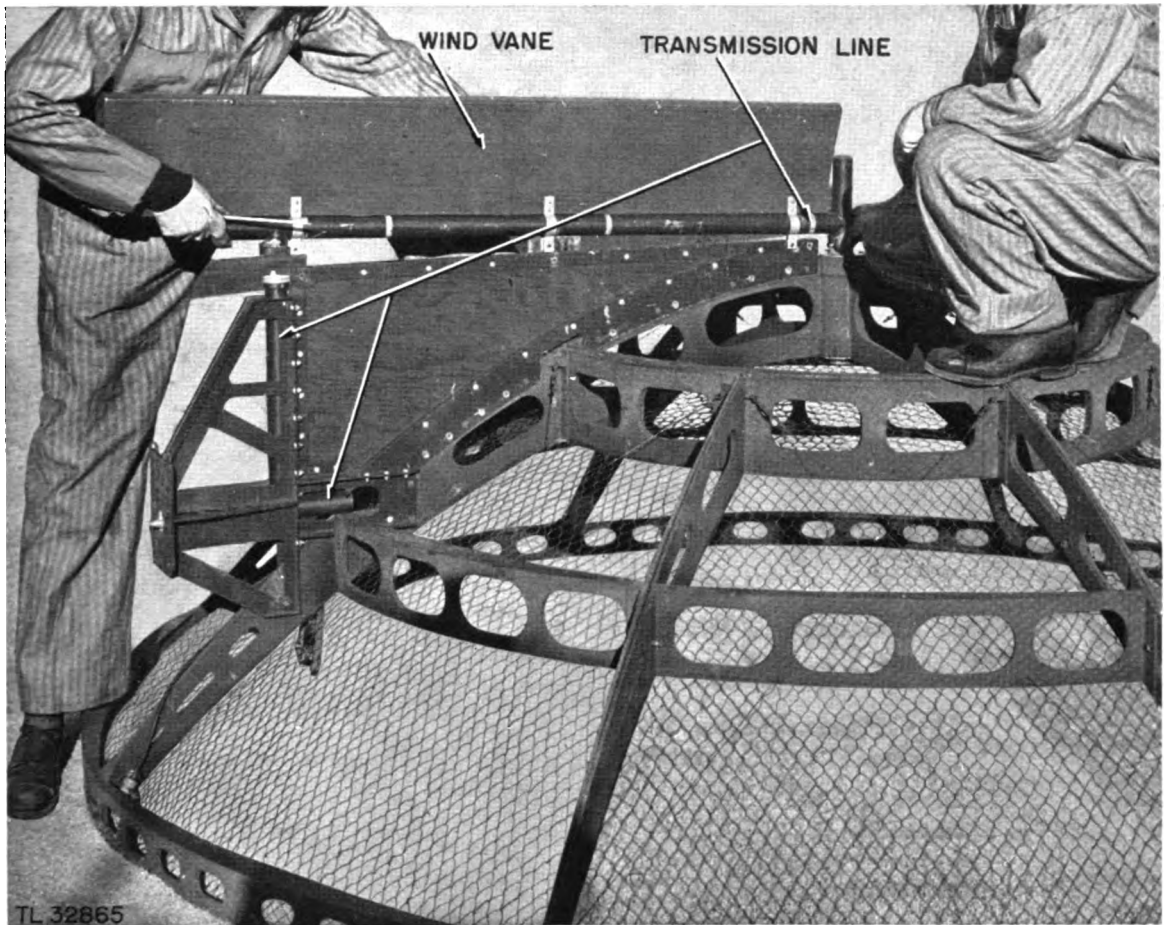

Figure 14. Assembling of wind vane.
f. Remove the wind vane and transmission line assembly from crate No. 5. Install this assembly on the back of the support and transmission line piece as shown in figure 14. Place it in position, and screw down the two coupling rings on the trans-